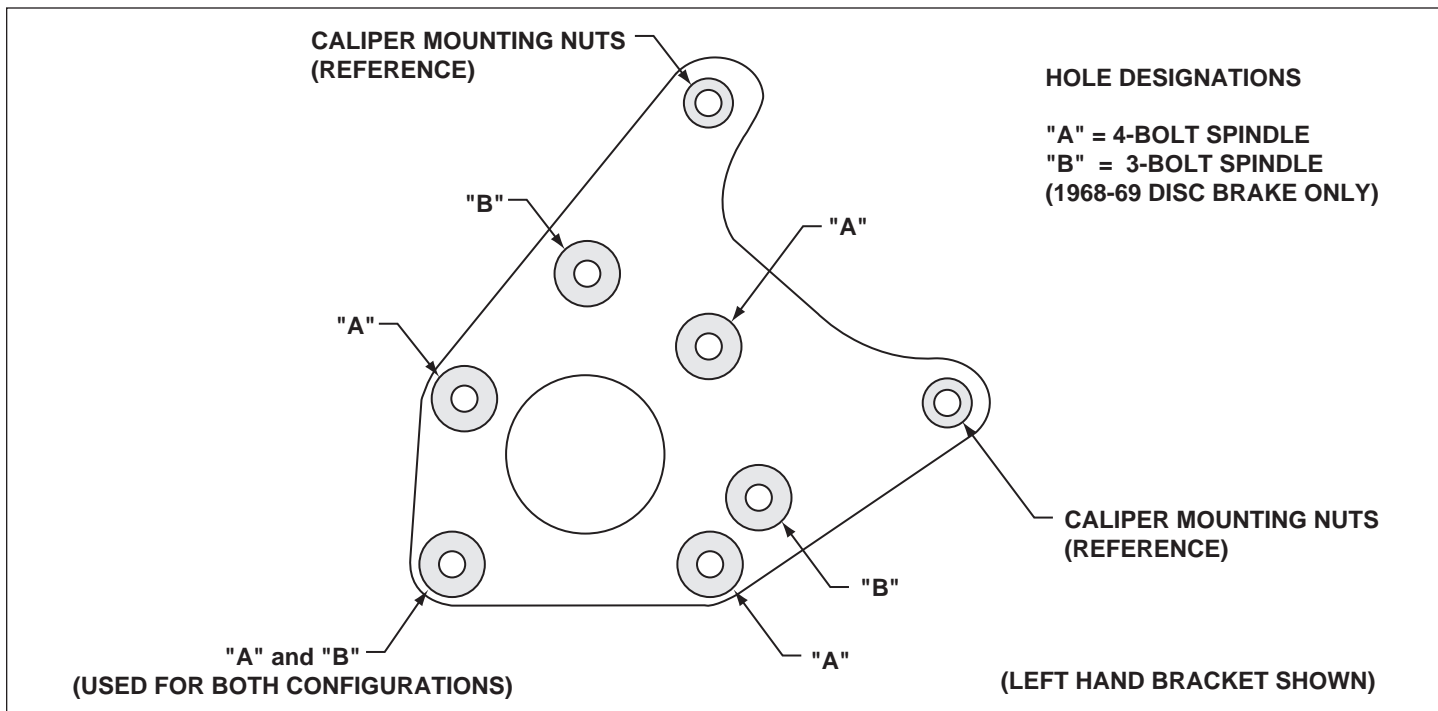
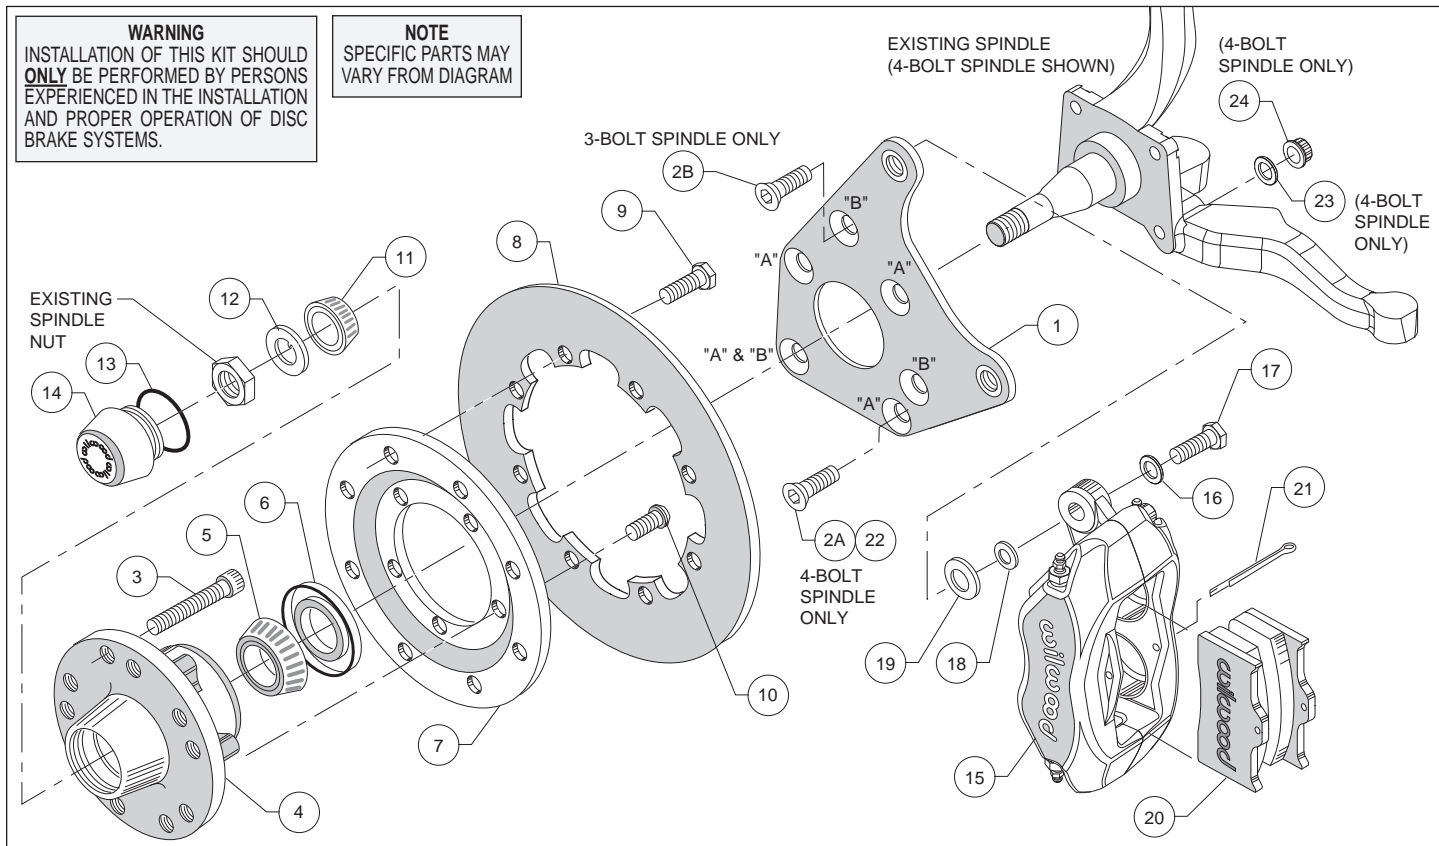
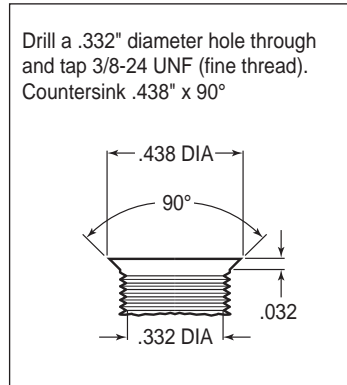

Figure 1. Wilwood Caliper Mounting Bracket
Figure 2. Typical Installation Configuration
Figure 3. Drill and Tap Detail
This kit has been designed for use with both three and four bolt spindle configurations. The only difference is in how the Wilwood caliper mounting bracket is installed. The same bracket is used for both configurations; only the 1968-69 disc brake spindle utilizes three mounting holes while all other spindles use the four mounting holes (see Figure 1). For your convenience we have supplied bolt kits for both applications (see parts list and Figure 2 as necessary, items 2A and 2B). Use the bolt kit that is applicable to your vehicle and disregard the other one.
- Review the wheel clearance diagram (figure 3, page 4) to verify that there is adequate clearance with the wheels you will be using with the installation. This kit will result in the wheels being moved out approximately .50" beyond the stock location.
**NOTE:** This modification should be performed by a qualified machinist and completed before assembly of the Wilwood disc brake kit begins. Using the caliper mounting bracket as a template (refer to Figure 1 as necessary), locate and verify the three original holes on the spindle that need to be modified. Drill a .332" diameter hole through all three holes, then tap 3/8-24 UNF (fine thread). Countersink the holes to .438" diameter x 90°, as shown in Figure 3.
**Assembly Instructions** (numbers in parenthesis refer to the parts list, and Figure 2 on the preceding pages): **CAUTION:** All mounting bolts must fully engage insert nuts. Be sure to check that all bolts are either flush or protruding through flanged side of insert nut after shimming, Figure 6.
•**NOTE:** This kit uses the same mounting bracket (1) for both the three and four bolt brake spindles. The 4-bolt version, uses four mounting bolts (designated "A"), while the 3-bolt version, uses three (designated "B"). Refer to Figures 1 and 2 for the basic installation position of the bracket and the "A" and "B" reference designations (not physically marked on the brackets).
**For 4-Bolt Spindle:** Align bracket, using the four "A" holes, to the face of the spindle and attach using bolts (2A), bolt (22), washer (23), and lock nuts (24) as shown in Figure 2. Ensure that the flanged heads of the clinch nuts in the bracket are facing outboard. Torque lock nuts to 30 ft-lb.
**For 3-Bolt Spindle (1968-69 Disc Brake):** Align bracket, using the three "B" holes, to the face of the spindle and attach using bolts (2B) as shown in Figure 2. Finger tighten. Ensure that the flanged heads of the clinch nuts in the bracket are facing outboard, Remove bolts one at a time, apply red *Loctite*® 271 to threads, and torque to 40 ft-lb.
•Install wheel studs (3) into the hub (4), Photo 1. Torque to 77 ft-lb.
•Pack the large inner bearing cone (5) with high temperature disc brake bearing grease (available from your local auto parts store) and install into the backside of the hub (4), Photo 2.
•Install the grease seal (6) by pressing into the backside of the hub (4), flush with the end of the hub, Photo 2.
- Orient the rotor (8) and the rotor adapter (7) as shown in Figure 2 and Photo 3. Attach the rotor to the adapter using bolts (9). Using an alternating sequence, apply red *Loctite*® 271 to the threads and torque to 25 ft-lb. Safety wire the bolts using standard 0.032 inch diameter stainless steel safety wire as shown in Figure 5. Please refer to Wilwood's data sheet DS-386 (available at [www.wilwood.com/Pdf/DataSheets/ds386.pdf](http://www.wilwood.com/Pdf/DataSheets/ds386.pdf)) for complete safety wire installation instructions.
- Mount the adapter/rotor assembly (7/8) to the hub (4) using bolts (10), as shown in Figure 2 and Photo 4. Using an alternating sequence, apply red *Loctite*® 271 to the threads, and torque to 45 ft-lb.
- Pack the small outer bearing cone (11) with high temperature disc brake bearing grease and install into front of hub (4). Slide the hub/rotor assembly onto the spindle. Secure using spindle washer (12) and OEM spindle nut, Photo 5. Adjust bearings per OEM specifications. Install saved OEM nut lock (if any) and a new cotter pin (not included).
- Screw dust cap (14) into hub (4), Photo 6. Friction created by the o-ring (13) on the dust cap keeps it from unscrewing. **NOTE:** The O.D. of the existing OEM spindle washer may be larger than the I.D. of the dust cap not allowing it to seat against the hub face. Therefore, use the spindle washer (12) supplied with the kit instead of the OEM washer.
- NOTE:** Please reference the caution statement at the beginning of the assembly instructions. Mount the caliper (15) onto the caliper bracket (1) using bolts (17) and washers (16), as shown in Figure 2. Initially place two spacer washers (19) on each bolt between the caliper and the bracket, Figure 2. Temporarily tighten the mounting bolts and view the rotor (8) through the top opening of the caliper. The rotor should be centered in the caliper, Photo 7. If not, adjust by adding 0.035 inch thick shims (18) between the caliper and the spacer washers. Always use the same amount of shims on each of the two mounting bolts. **NOTE:** The end of the bolt must be flush with or slightly protruding from the head of the clinch nut as shown in Figure 6. If necessary place spare shims between washer (16) and caliper mounting ear to achieve the proper clinch nut engagement. Once the caliper alignment and clinch nut engagement are correct, remove the bolts one at a time, apply red *Loctite*® 271 to bolts threads, and torque to 40 ft-lb. Caliper mount bolts may be safety wired for additional security, Figure 5.